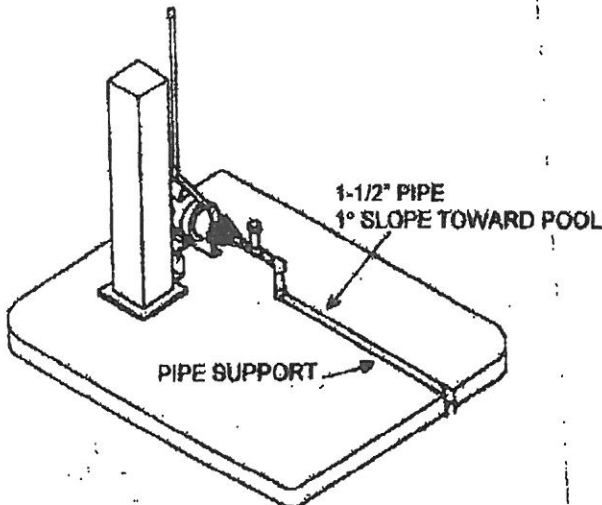

FIGURE 1.
(7). Connect a 1-1/2 straight pipe to the last 90° elbow. It must be long enough to reach the edge of the pool. The straight pipe must have at least a 1° slope downward towards the pool edge. This adjustment can be made by twisting the previous set of 90° elbows to lift or lower the pump end of the water line. This ensures that there is no water entrapment during "non-use periods". (Example: Freezing conditions or system maintenance, etc.). Refer to Figure 1.
- (8) Place a Tee at the end of the PVC pipe so the water inlet tubes can be placed as shown in the above diagram.
- (9) Place the two water inlets approximately 30" apart, pointing toward the bottom of the pool, as shown in the above diagram.
(10). Install a 1-1/2" female adapter onto the pump outlet pointing towards the tower post. (Teflon™ tape must be wrapped around the threads of all PVC pipe joints). (See Figure 1).
(12). Install a straight section of 1-1/2" PVC pipe long enough to reach the tower post onto the 45° elbow. (See Figure 1).
Note: All water lines must have a downward slope for drainage. (See Figure 1).